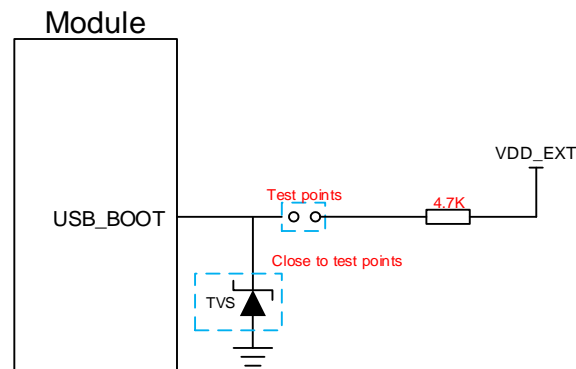

Figure 31: Reference Circuit of USB_BOOT Interface
2. When using MCU to control module to enter the emergency download mode, please follow the above timing sequence. It is not recommended to pull up USB_BOOT to 1.8V before powering up VBAT. Connect the test points as shown in **Figure 31** can manually force the module to enter download mode.